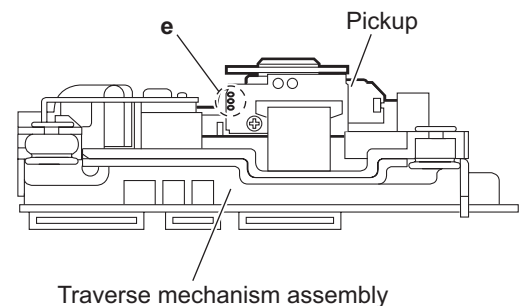

Fig.7
3.2.6 Removing the DVD module board (See Figs.7 and 8)
- (1) From the side of the traverse mechanism assembly, solder the short land sections **e** of the pickup. (See Fig.7.)
- Solder the short land section **e** on the pickup before disconnecting the card wire from the connector **CN101** on the DVD module board. If the card wire is disconnected without attaching solder, the pickup may be destroyed by static electricity. (See Figs.7 and 8.)
- When attaching the DVD module board, be sure to remove solders from the short land section **e** after connecting the card wire to the connector **CN101** on the DVD module board. (See Figs.7 and 8.)
3.2.7 Removing the pickup (See Figs.7, 9 to 11)
- Solder the short land section **e** on the pickup before disconnecting the card wire from the connector on the pickup. If the card wire is disconnected without attaching solder, the pickup may be destroyed by static electricity. (See Figs.7 and 9.)
- When attaching the pickup, be sure to remove solders from the short land section **e** after connecting the card wire to the connector on the pickup. (See Figs.7 and 9.)
3.2.8 Attaching the pickup (See Figs.7, 9 to 12)
- (4) Remove the solders from the soldered sections **e** after attaching the card wire to the connector on the pickup. (See Figs.7 and 9.)